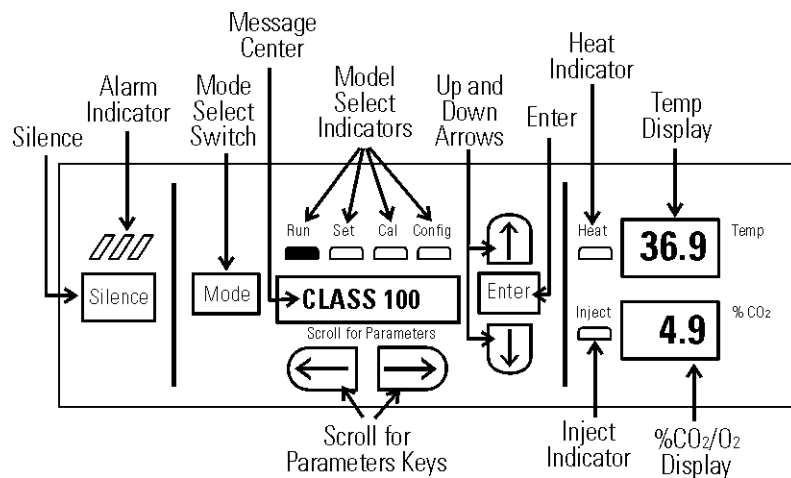

Figure 1-2. Control Panel
- Control Panel - Keypad, Displays and indicators (See Figure 1-2)